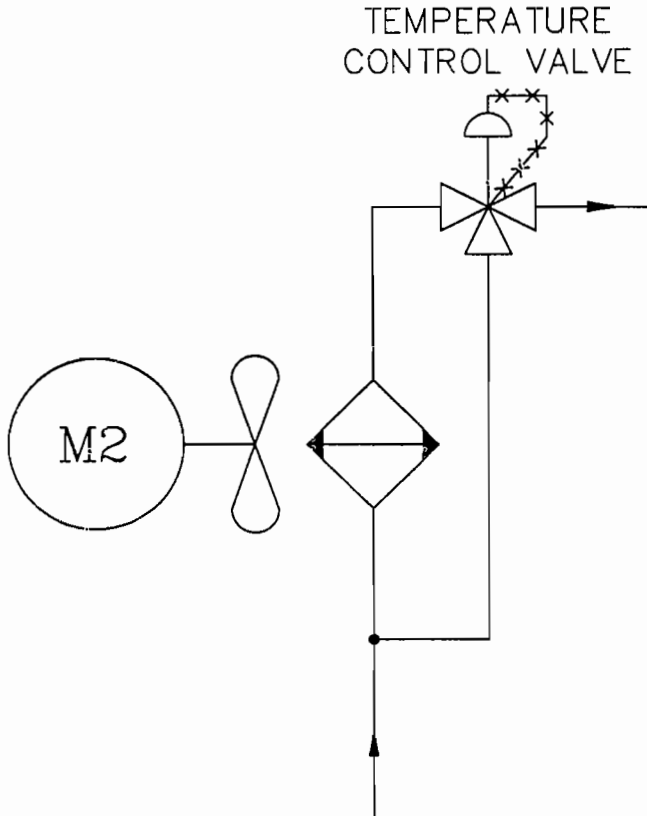

Figure 11. Air to Oil Cooler with Mixing Action Temperature Control Valve.
- Consideration should be given to an air to oil cooler with a mixing valve (Figure 11).
High Ambients above 120°F and/or Direct Sunlight (Figure 11, high ambient schematic including an air to oil cooler)